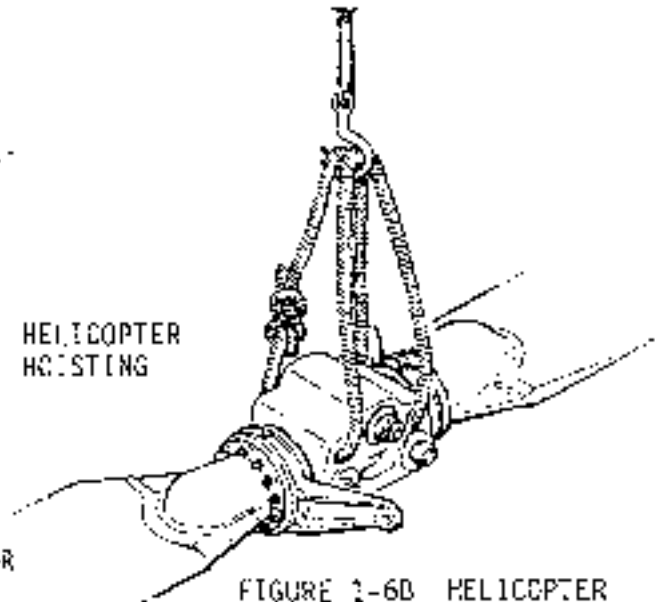

FIGURE 1-6B HELICOPTER HOISTING
2. Hoist helicopter using MT527-1 helicopter lifting fixture as shown in Figure 1-6A, or by passing one-inch diameter soft nylon rope through the lightning holes in main rotor hub and forming a double loop per Figure 1-6B. Rope must have a minimum tensile strength of 2,500 lb.